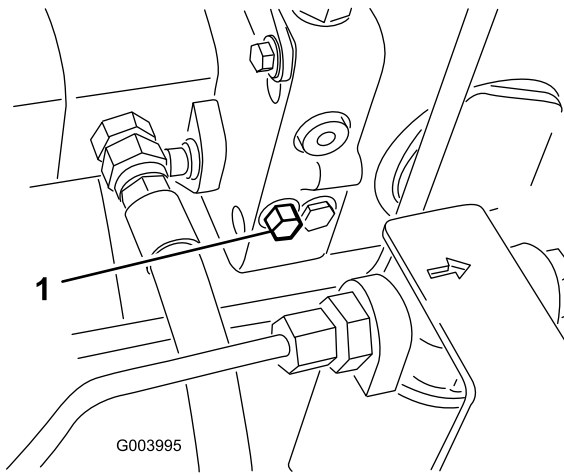

Figure 45
1. The bypass valve is located on the left side of the hydrostat (Figure 45). Rotate the bolt 1-1/2 turns to open and allow oil to bypass internally. Because fluid is bypassed, the machine can be moved slowly without damaging the transmission.